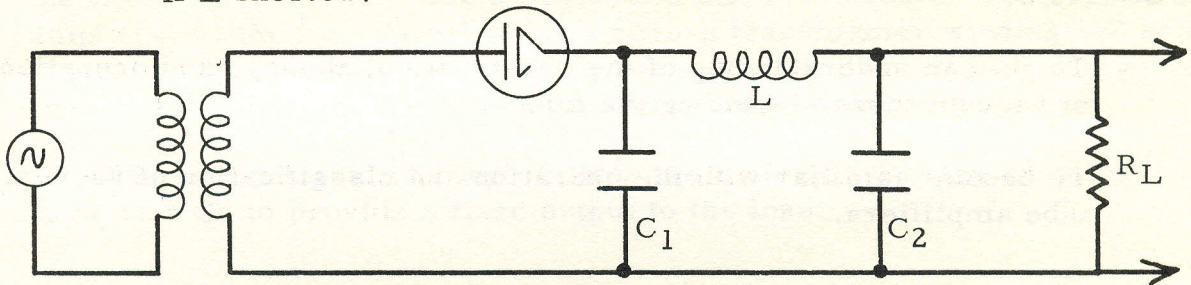

Figure 2
10. In Figure 2, what would be the probable results if  $C_1$  shorted?